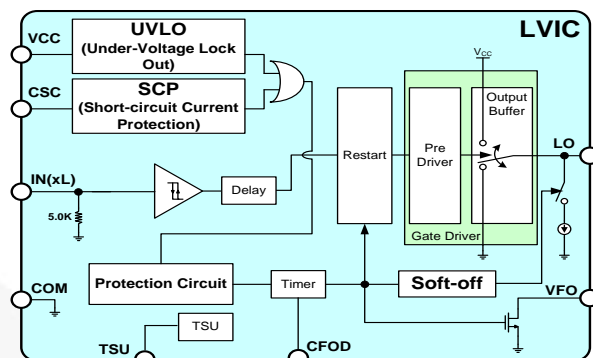
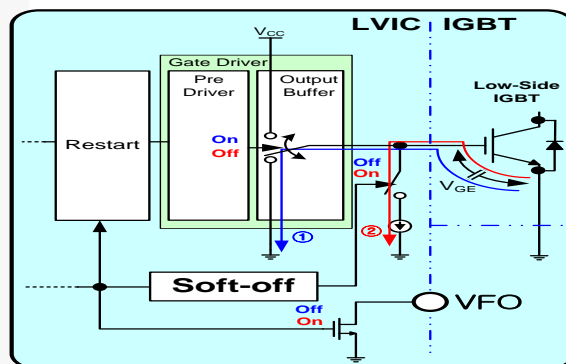

Figure 27. Internal Block Diagram of LVIC
Figure 28. Operating Sequence of Soft Turn-Off
An internal block diagram of LVIC and operation sequence of soft turn-off function is shown in Figure 27 and Figure 28. This function operates by two internal protection functions (UVLO and SCP). When the IGBT is turned off in normal conditions, LVIC turns off the IGBT immediately by turn-off gate signal ( $IN_{(xL)}$ ) via gate driver block. Pre-driver turns on output buffer of gate driver block (path ①). When the IGBT is turned off by a protection function, the gate driver is disabled by the protection function signal via output of protection circuit (disable output buffer, high-Z) and output of the protection circuit turn-on switch of the soft-off function.  $V_{GE}$  (IGBT gate-emitter voltage) is discharged slowly via circuit of soft-off (path ②).